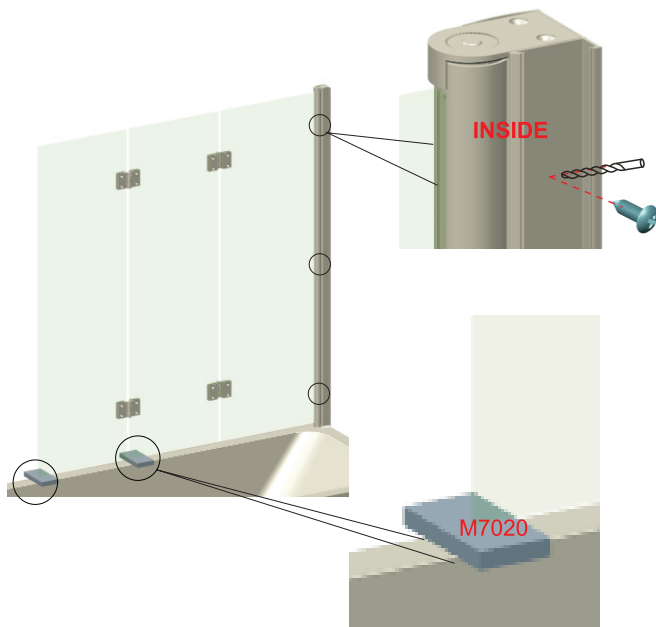

FIG 5
5. Drill 3 holes through the wall profile and fixed panel using a 3.0mm steel drill bit.(B08092) Using the screw , fix the screen upright profile to the wall profile in 3 places. **Fig 5.**